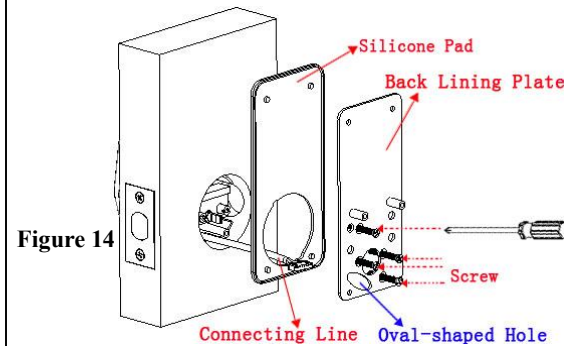
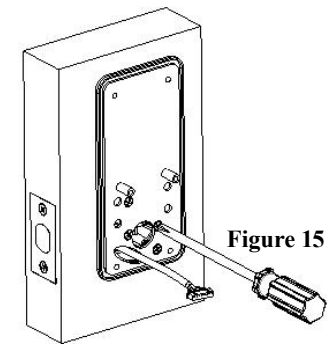

Figure 14
Figure 15
4. Install the **Back Lining Plate** to the mapping **Hole Slot**. Pull the **Connecting Wire** out of the **Oval-shaped Hole** of the **Back Lining Plate** (As shown in **Figure 14**) and fix the **Back Lining Plate** and **Front panel Assembly** using a screwdriver, as shown in **Figure 15**.